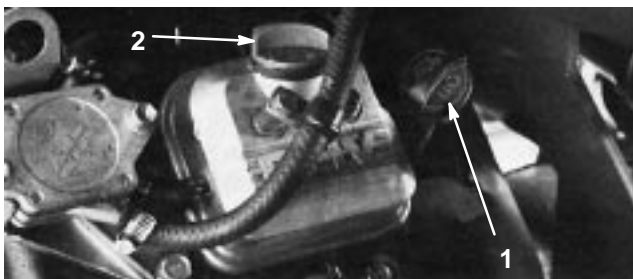

Figure 14
2. Unscrew the dipstick and wipe it with a clean rag. Screw the dipstick into the tube and make sure it is seated fully (Fig. 14). Unscrew the dipstick out of the tube and check the oil level. If the oil level is low, remove the filler cap from the valve cover and add enough oil to raise the level to the Full mark on the dipstick.